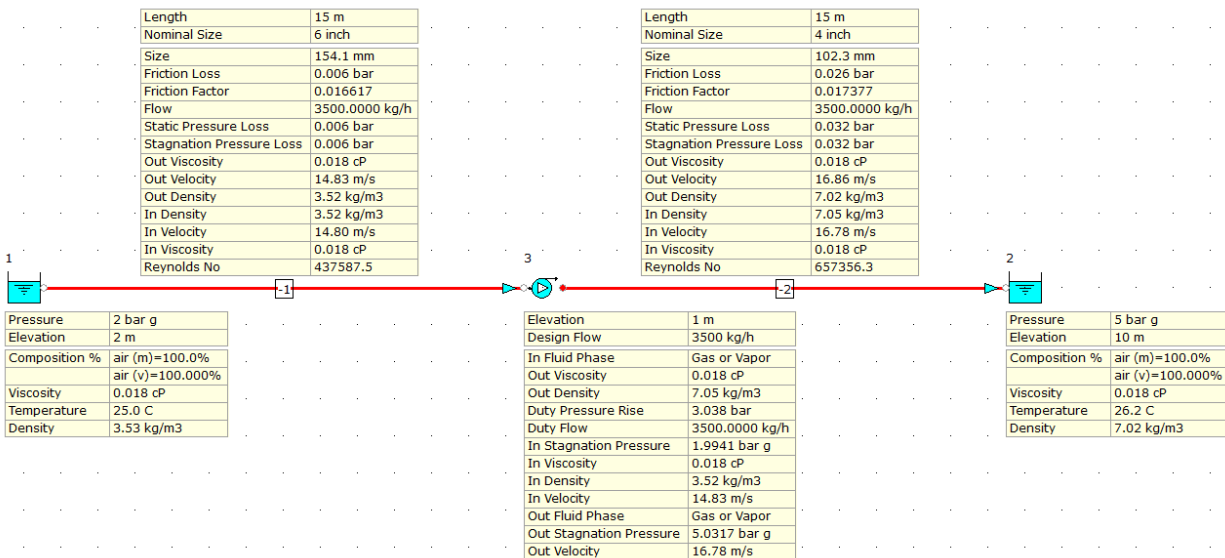

Figure 57: Hydraulic Model with Compressor Properties.
61. The hydraulic model should now look like the screenshot given below (Figure 57).